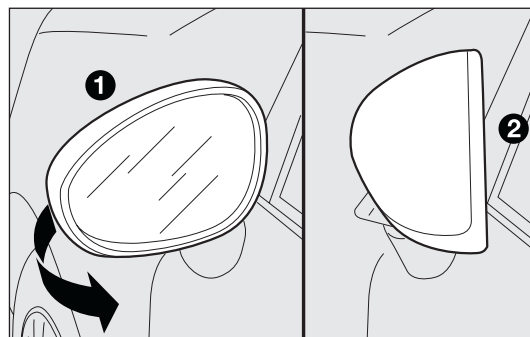

fig. 28
When required (for example when the shape causes difficulty in narrow spaces), it is possible to fold the mirrors by moving them from position 1-fig. 28 to position 2.
**When driving, the mirrors should always be in position 1-fig. 28.**